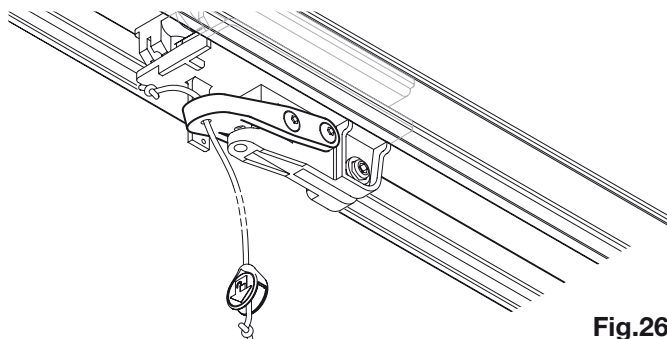

Fig.26
9) Tie the release cord to the release unit lever, as indicated in figure 26.